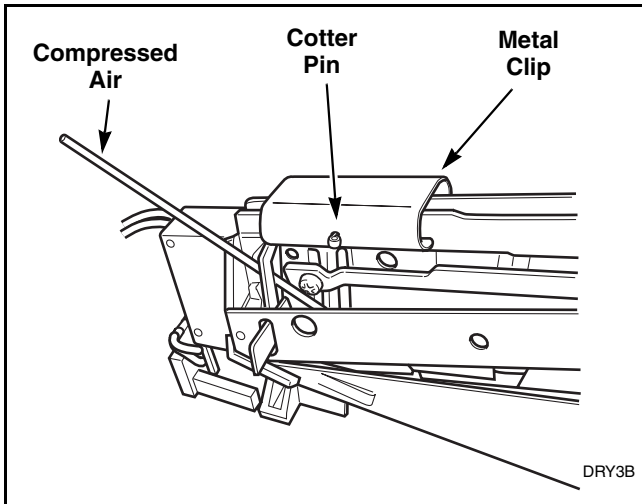

Figure 2
3. If lint is preventing coins from rolling through the coin drop, blow compressed air through the coin entry and along the side of the coin drop. Refer to *Figure 2*.
5. Remove the cotter pin from the top of the drop. Refer to *Figure 2*. Save the pin for reinstallation when the cleaning of the coin drop is complete.
6. Move the metal clip closer to the sensor so that it comes off of the frame. Refer to *Figure 2*.